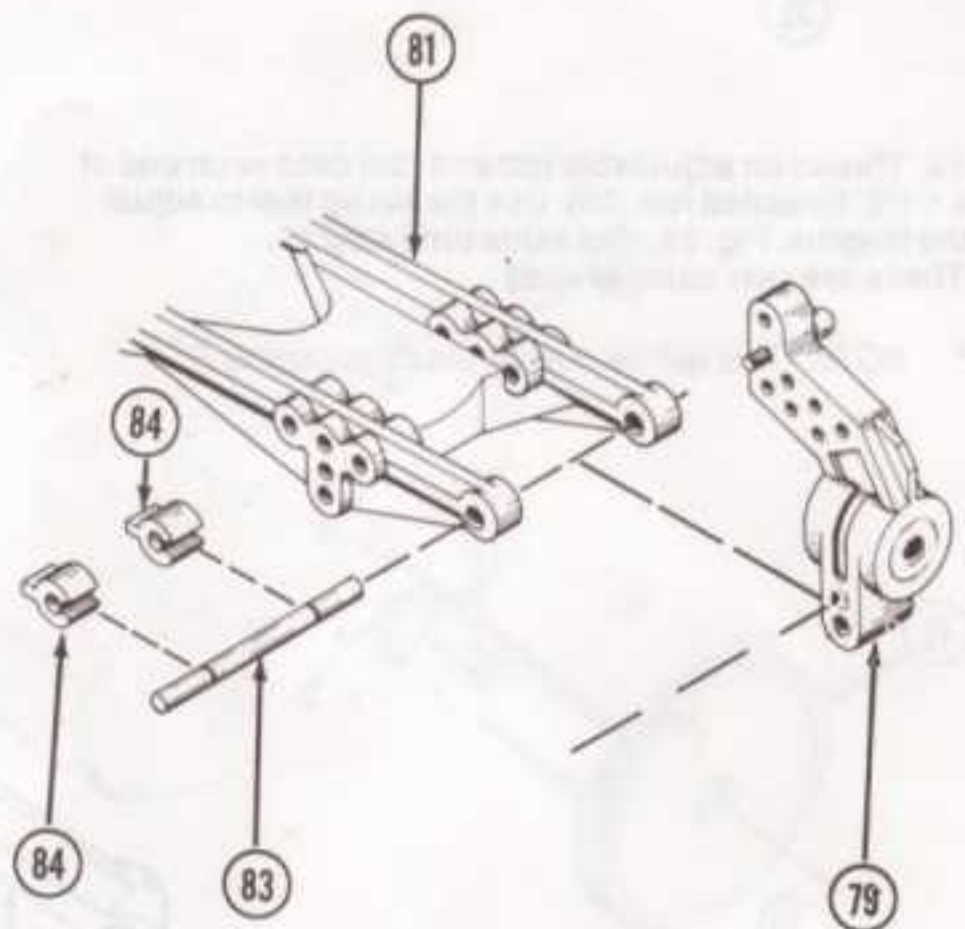

FIG. 31
3. Place hub carrier (79) in-between outer rails of H-arm [Right (81), Left (82)] as shown. Fig. 31.
* **NOTE:** Be sure to have studded ball (22) in hub carrier (79) pointing the same direction as arrow on bottom of H-arm (81) (82).
4. Insert 1/8" x 1.420 hinge pin (83) through H-arm (81) (82) and through upper hole in hub carrier (79). Fig. 31.
5. Clip on snap clips (84) into grooves in pin (83). Fig. 31.
* **NOTE:** Its easiest if one groove in the pin (83) is given excess room for clip (84), then push hub carrier (79) up against it and snap in second clip (84).